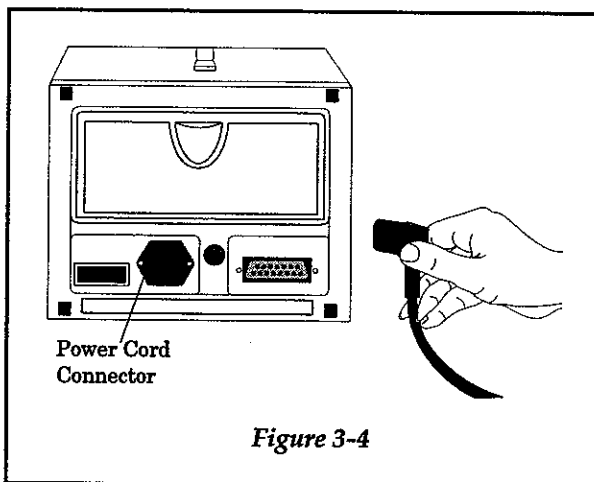

Figure 3-4
- Step 3** Plug the electrical cord into the power connector on the back of the unit. Figure 3-4.